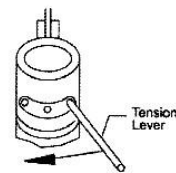

FIGURE 1
- B. Insert Tension Lever Tool in right hand hole in the adjustment slot. (see FIGURE 1)